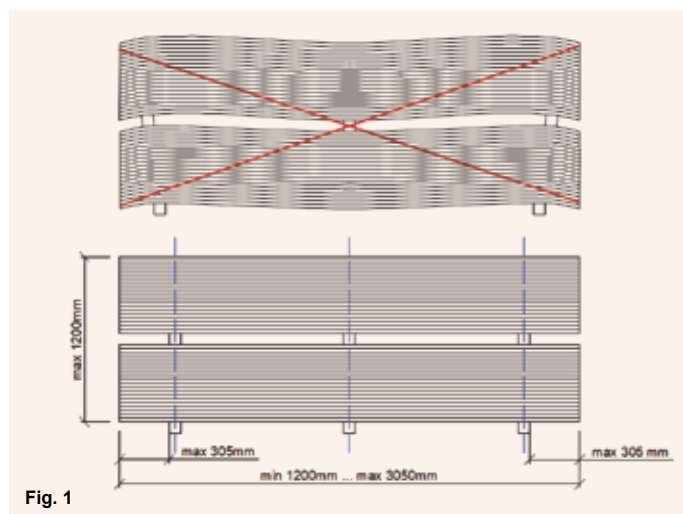

Fig. 1
**VMG Lignum Board | Floor T&G4** should be stacked horizontally on wooden battens (100 x 80 mm). Wooden battens should be of the same dimensions and spaced no further than 950 mm apart. At the edges, **VMG Lignum Board | Floor T&G4** should not project from the last wooden battens by more 305 mm. Wooden battens should be vertically aligned to avoid damage (Fig. 1).